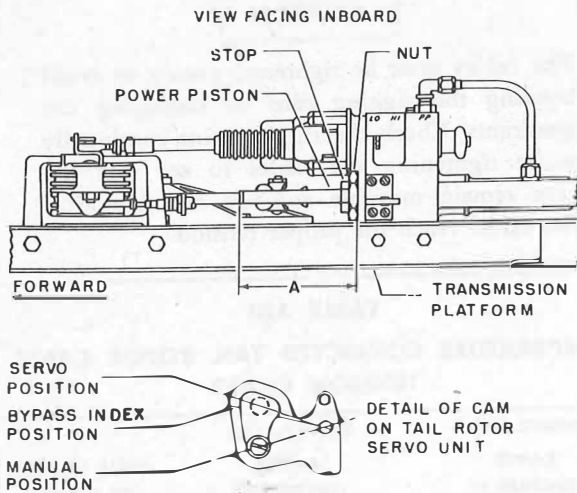
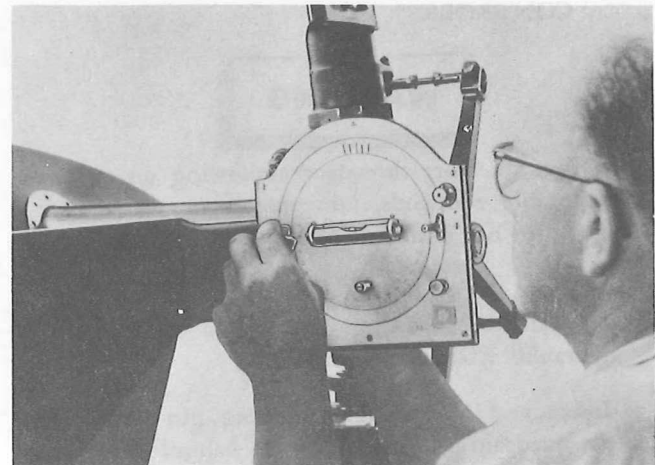

Figure 2-61. Tail Rotor Servo Unit Neutral Position
Figure 2-62. Measuring Pitch on Tail Rotor Blade
b. Screw the pedal adjustment handles (9 and 62) for the pilot's and observer's tail rotor control pedals in or out to position the pedals in the middle of their fore-and-aft adjustment. Check that both sets of pedals line up vertically and horizontally under the control pedal tubes (5). Adjust the position of the pedals, if necessary, by lengthening or shortening the rod ends of the rods (3 and 82 or 12 and 67) which attach to the pedals.
c. Loosen the tail rotor control cables at the turnbuckles (15 and 59) in the cabin, one (15) just aft of the cargo door and the other (59) just forward of the front left-hand cabin window, and at the two turnbuckles (28 and 50) in the tail cone. Lock the quadrant (46) at the aft end of the tail cone with a 3/16 x 6 inch rigging pin.
e. Check that the cam on the tail rotor servo unit is in the manual position. (See Cam Detail, figure 2-61.) Using vernier calipers, carefully measure dimension "A" (figure 2-61), the distance from the face of the servo unit housing to the forward end of the power piston, for a dimension of 4.78125 (4-25/32) inches. Set the power piston for this dimension and hold it in position with blocks and "C" clamps.
g. Remove the blocks and "C" clamps from the tail rotor servo unit power piston. Recheck dimension "A" (figure 2-61). If the dimension has varied from 4.78125 (4-25/32), adjust the turnbuckles as necessary to obtain the proper dimension at the same time maintaining proper cable tension and quadrant position. (Refer to the CAUTION in step f.) Lockwire the turnbuckles.
i. Remove the screen and the cover from the top of the pylon. Check that the input arm on the tail rotor gear box is parallel with the frame to which the gear box is attached. This will position the center of the hole in the input arm 2.875 (27/8) inches from the frame surface. Adjust, if necessary, at the rod end of the control rod (36). Replace the screen and cover on the top of the pylon.
j. Turn a tail rotor blade to a forward horizontal position. Secure the blade from flapping by installing the blade restrainer assembly, S1670-10417. Place a protractor on the tail rotor pitch change shaft and establish a "O" reference on the protractor. Level the forward blade horizontally. Measure the blade angle on the flat of the sleeve for a reading of +6 degrees from the "O" reference established. (See figures 2-62 and 2-63.) Adjust the link from the pitch change beam to obtain
l. Back off the tail rotor pedal stops at the quadrant (80) behind the instrument panel. Actuate the left tail rotor pedal to the full left position. Turn a tail rotor blade to the forward horizontal position, and with the blade restrainer assembly, S1670-10417 installed, measure at the flat of the sleeve for a full left pedal angle of +23 ± 1/2 degrees. (See figures 2-62 and 2-63.) Adjust for the proper blade angle by loosening the lock nut and screwing the power piston stop on the forward side of the tail rotor servo unit in or out until the power piston is bottomed on its stop. (See figure 2-61.) Tighten the lock nut. Lockwire the stop and lock nut. Set the left pedal stop at the quadrant (80, figure 2-48) behind the instrument panel to a 0.010 inch clearance.
position. Measure a tail rotor blade which is in the forward horizontal position, with the blade restrainer assembly, S1670-10417, installed, for a full right pedal angle of  $-10 \pm 1/2$  degrees. (See figures 2-62 and 2-63.) Adjust for the proper blade angle by loosening the lock nut and screwing the power piston stop on the aft side of the tail rotor servo unit in or out until the power piston is bottomed on its stop. (See figure 2-61.) Tighten the lock nut and lockwire the stop and lock nut. Set the right pedal stop at the quadrant (80, figure 2-48) behind the instrument panel to 0.010 inch clearance.